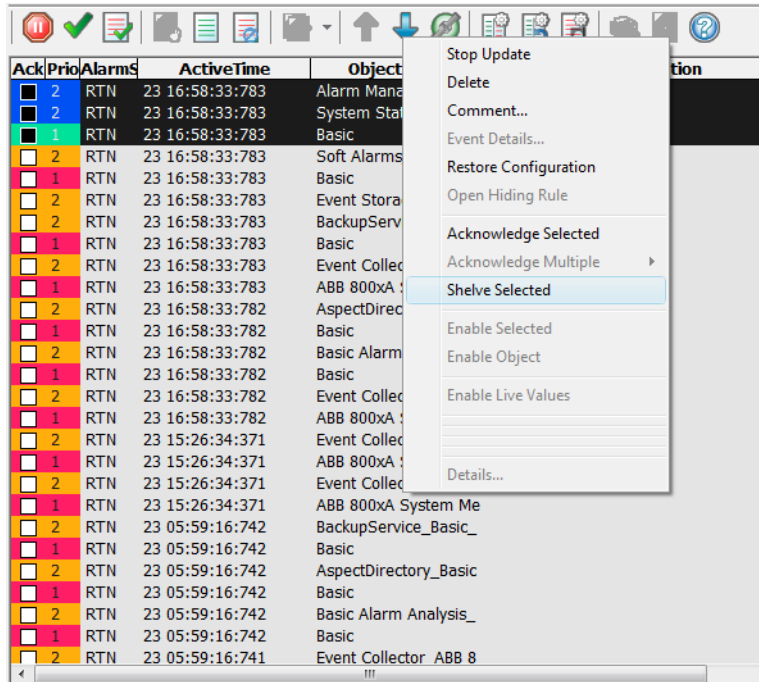

Figure 82. Shelve Selected Context Menu
1. Select an alarm in the main alarm list -> right-click and select **Shelve Selected** from the context menu. Refer to Figure 82.